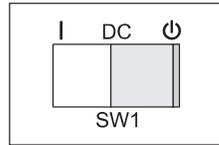

Figure 6. Standby condition label
6. Verify that the standby condition label is installed on the 2104 Model TS4. See Figure 6.